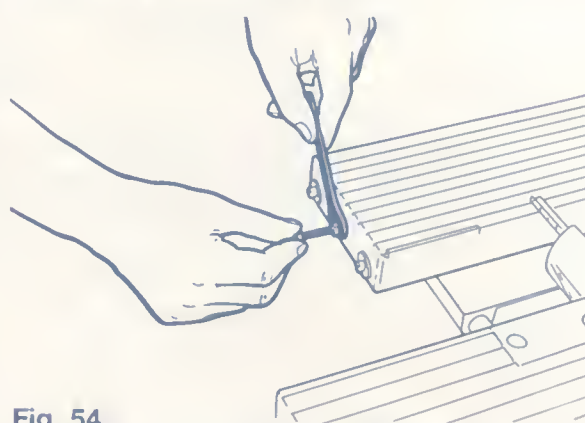

Fig. 54
Be sure to loosen the main locking lever turn elevating handwheel (B) clockwise to lower the table and turn it counterclockwise to raise it (**Figure 54**). It is best to use handwheel (A) **Figure 1** on page 6) for fine adjustments.